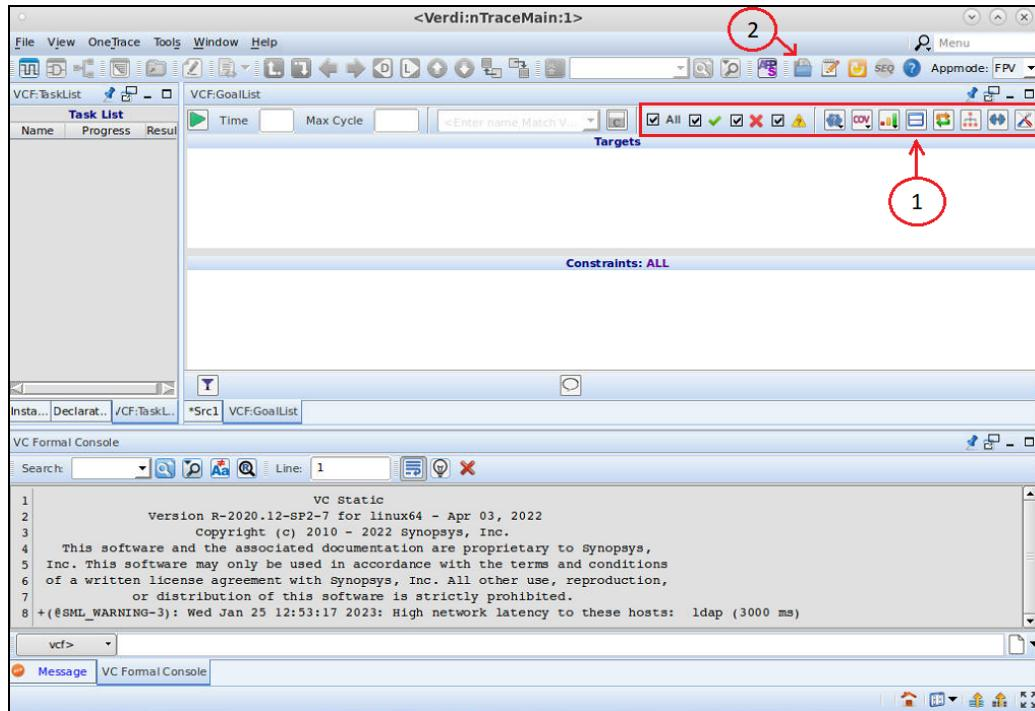

Figure 2.2. VC Formal GUI introductory screen.
You should then see the VC Formal GUI as shown in *Figure 2.2* below. You can toggle between showing Targets, Constraints, or both Targets and Constraints window by clicking the blue box icon in the upper right-hand of the application (1).
Then load a TCL script by clicking on the icon (2) as shown in Figure 2.2.